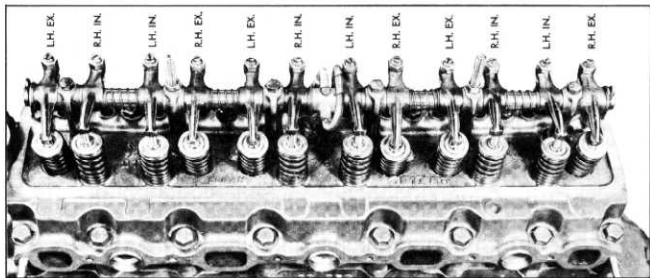

Fig. 23—Valve Rocker Arms Correctly Assembled
10. On 1949-52 engines connect rocker arm oil line to oil connector and tighten securely. Figure 23 shows rocker arm and shaft assemblies correctly installed on head.